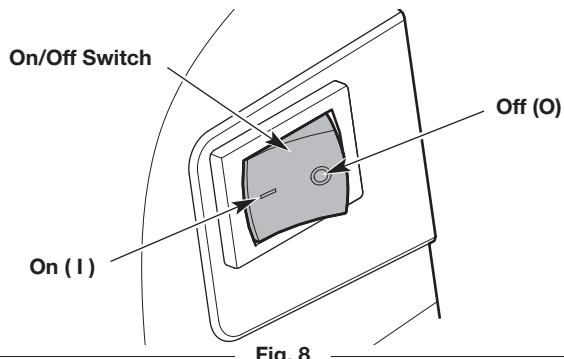

Fig. 8
**NOTE:** There is no need to turn the unit on. The On/Off switch is in the **On (I)** position at all times (Fig. 8).
2. Press and hold the On/Off switch in the **Off (O)** position until the engine comes to a complete stop (Fig. 8).